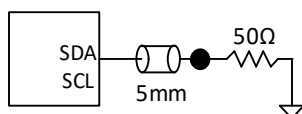
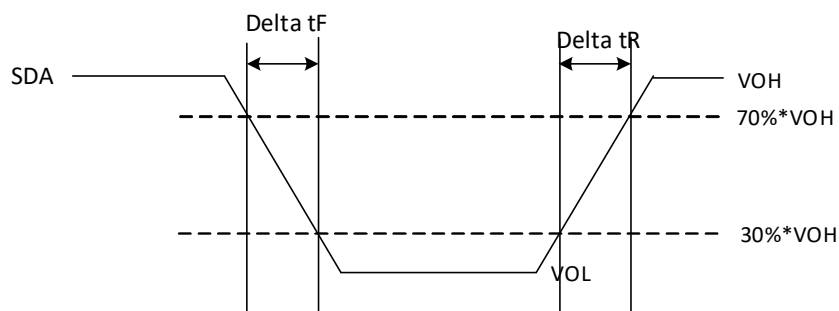

Figure 30. Output Slew Rate and Output Timing Reference Load
Figure 31. Output Slew Rate Measurement Points
- Output slew rate is guaranteed by design and/or characterization. The output slew rate reference load is shown in Figure 30 and Figure 31 shows the timing measurement points. For slew rate measurements, the V_{OH} level shown in Figure 31 is a function of R_{on} value;